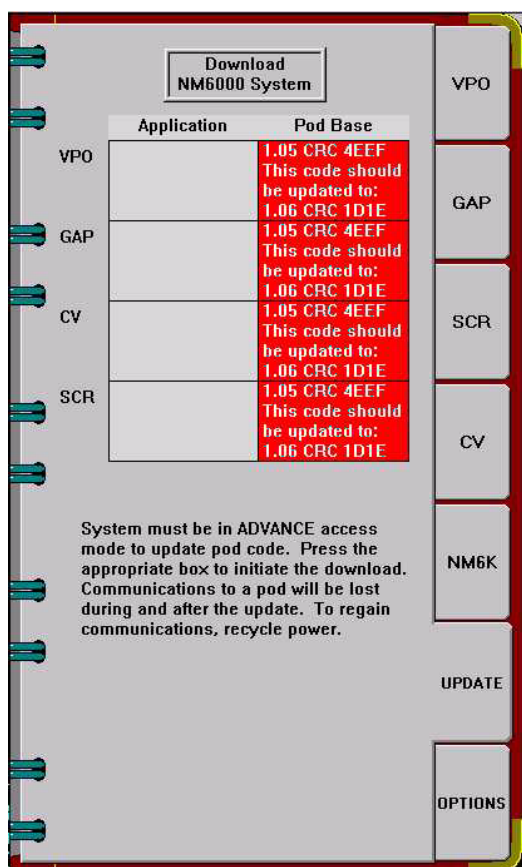

FIGURE 48. NM6000 Service Config Notebook Update Page
8.87 Touch the Update tab in the NM6000 CONFIGURATION to access the UPDATE Page. (Refer to Update Page in Section 2.4.2 of the Narkomed 6000 Technical Service Manual.) Press the VPO and GAP Pod Base keys to initiate the POD Base download. Also press CV and SCR keys if these options are present. See Figure 48.